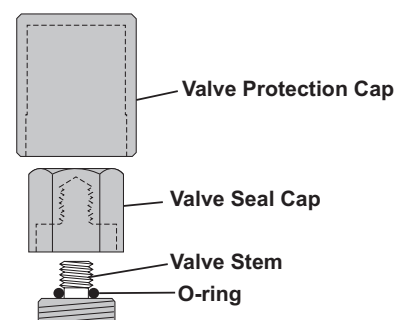

Figure 39
17. Replace the gas valve seal cap (tighten to 22 ft-lbs), and hand-tighten the valve protection cap (Figure 39).